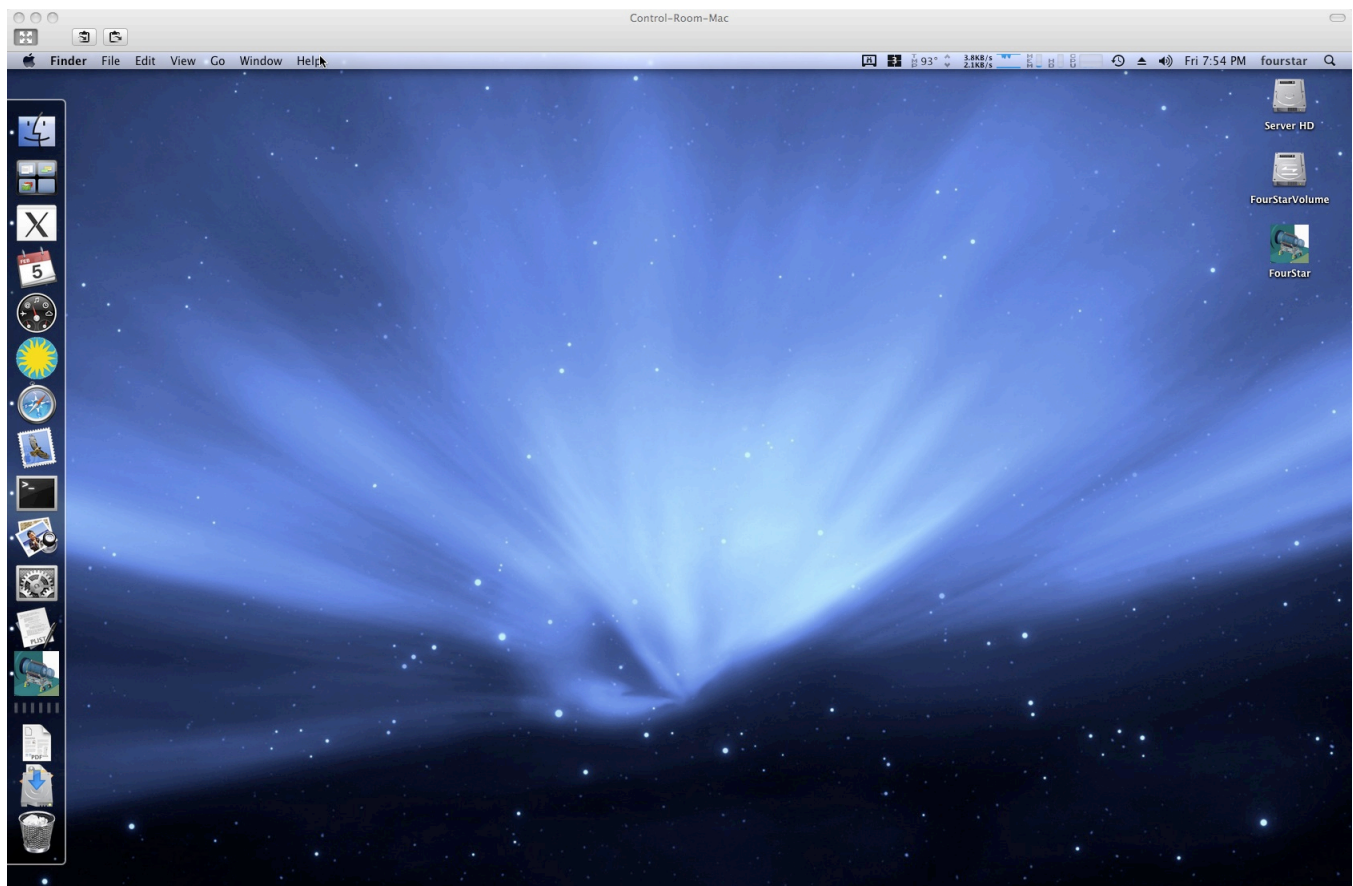

Figure 4.3 The Control-Room-Mac remote desktop.
**NOTE: The password is finicky; it may take several attempts to get through** (current record = 10). In most cases the FourStar software should already be running on the remote screen, if so, quit the FourStar application; we will turn it back on again shortly. The remote desktop of the Control-Room-Mac should appear as shown in Figure 4.3.